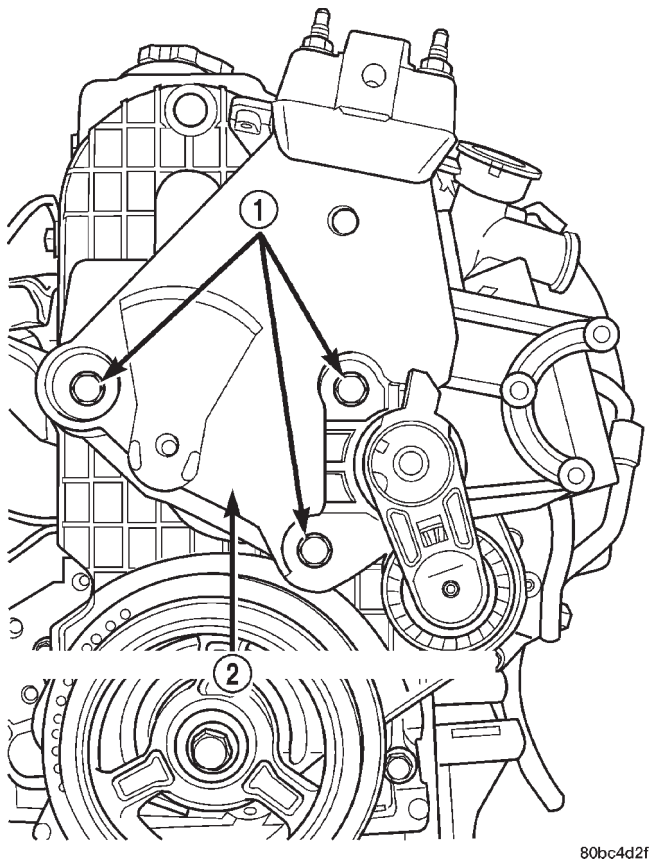

Fig. 22 Engine Mount Bracket Assembly
(6) Remove engine mount bracket attaching bolts (Fig. 22).
(7) Bracket removal requires engine to be raised slightly to obtain engine-to-body clearance.
(1) Install engine mount bracket and tighten bolts to 61 N·m (45 ft. lbs.) (Fig. 22).